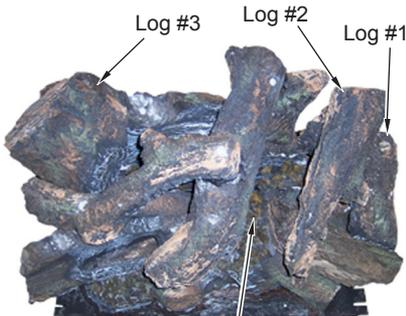

Figure 25 - Installing Loose Logs
2. For 36" models only, install 3 loose logs by placing log #1, log #2 and log #3 onto one piece log as shown in Figure 25.
3. Pull glowing ember material apart into pieces no larger than a dime. Place these pieces loosely and sparingly directly onto exposed burner ports (Figure 25). This will create the glowing ember appearance as flame touches ember material. Do not block air slots by using too much ember material in one area. Do not block pilot ports with embers. It is not necessary to use all of the glowing ember material provided.
5. For 36" models only, remove 3 loose logs from log set (see Figure 25 page 20).